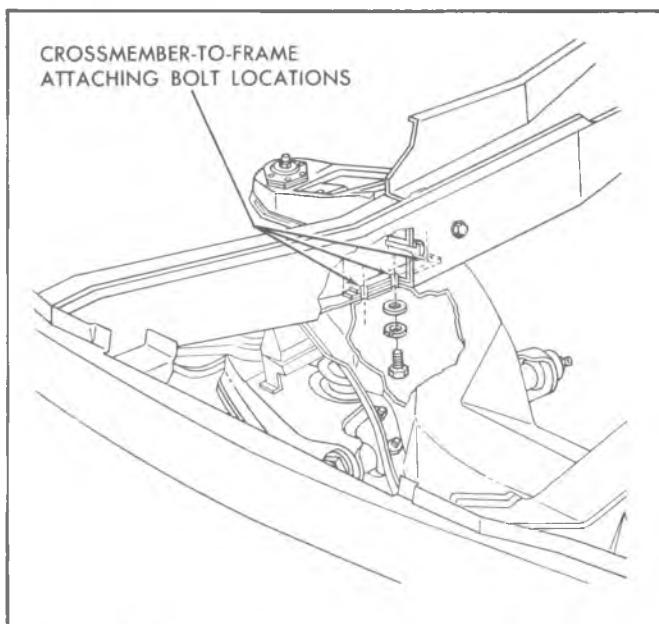

Fig. 3L—Crossmember-to-Frame Attaching Bolts
18. Disconnect rear brake pipe at right frame rail connector (Fig. 3L).
20. Remove the six (3 on each side) vertically driven front crossmember-to-frame attaching bolts (Fig. 3L).